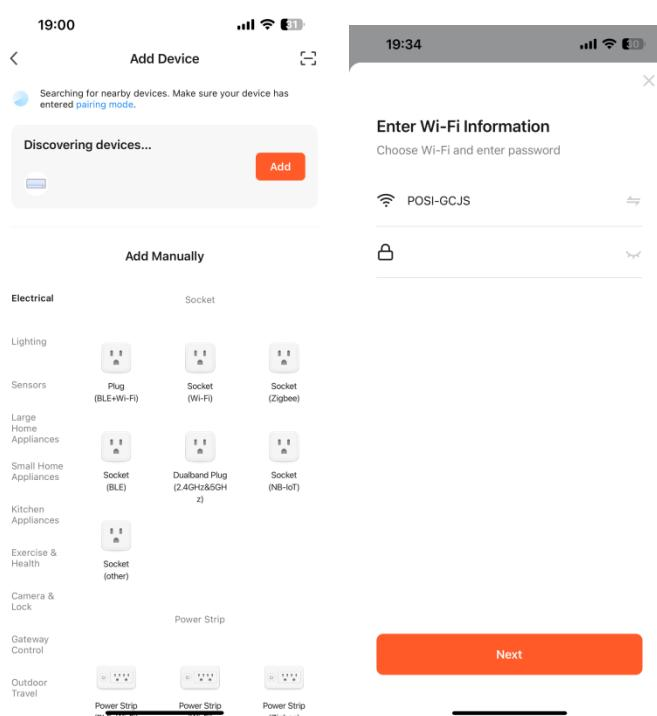

Fig.5
- 3.4.To accelerate pairing with Bluetooth devices, the app supports the automatic discovery of nearby Bluetooth devices. Once the Home page is opened, the app automatically searches for Bluetooth devices pending pairing and shows discovered Bluetooth devices in a dialog box.(Fig.5)